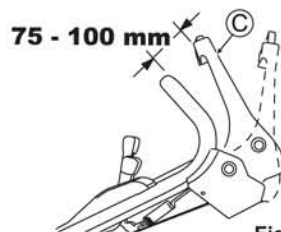

Fig. 23
Adjust so that the blade starts rotating when the distance between Blade lever (C) and the handle is 75 - 100 mm with the yellow button pressed as shown in Fig. 23.